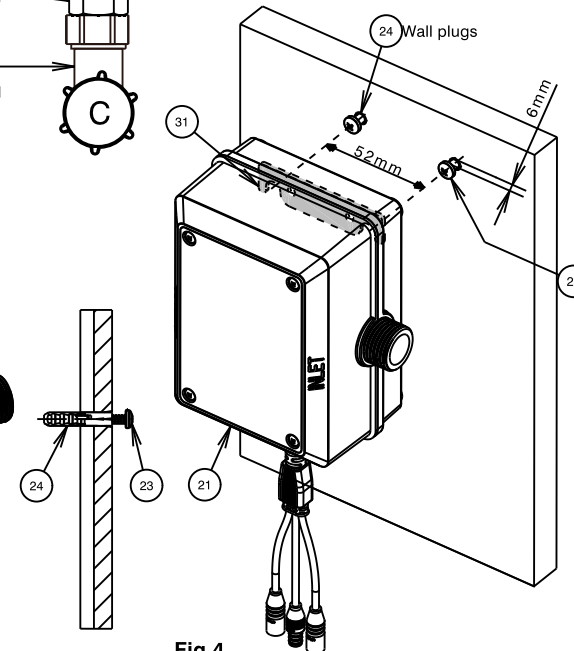

Fig.4
- iv) Drill two Ø6mm holes horizontally at 52mm apart as shown in Fig. 4.
- ii) Insert small end of wall plugs (24) into drilled holes and tap until flush with wall/tile face.
- iii) Insert screws (23) into wall plugs, screw them until the head is 6mm away from wall/tile face as shown in Fig. 4.
- iv) Mount the control box (21) onto the screws (23).
- i) Drill two Ø6mm holes, 40mm deep horizontally as shown in Fig. 4.
- i) Drill two holes at 52mm apart horizontally to suit the self tapping screws supplied as shown in Fig. 4.
- 4) Note: The isolation stop taps (13) & (26), tempering valve (25), connection hoses (27), (28) are not supplied.